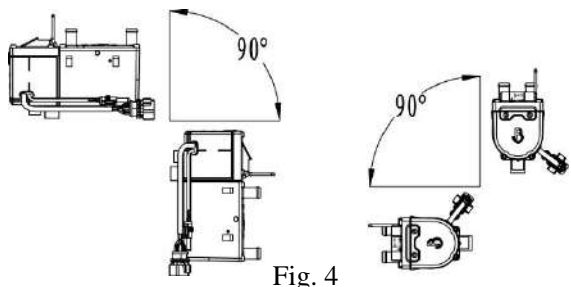

Fig. 4
4.2.3 Choice of position for installation of the heater shall facilitate release of air from the water pipe. It is allowed to incline to suit different arrangements for installation, but deviation from the “normal installation position” shall not exceed 90° , as shown in Fig. 4. Normal position is horizon and the
shall not exceed 90° , as shown in Fig. 4. Normal position is horizon and the